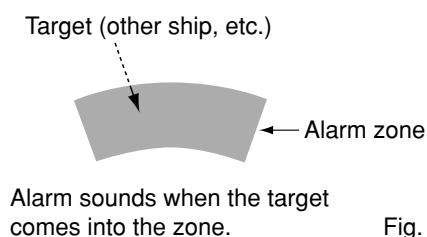

Fig. 3
- ① Push [MENU] several times to call up the FUNCTION menu.
- ② Push [▼] until the "ZONE ALARM" section becomes highlighted.
- ③ Push [◀ ▶] to select IN or OUT
- IN : Alarm sounds when the target comes into the zone. (see Fig. 3)